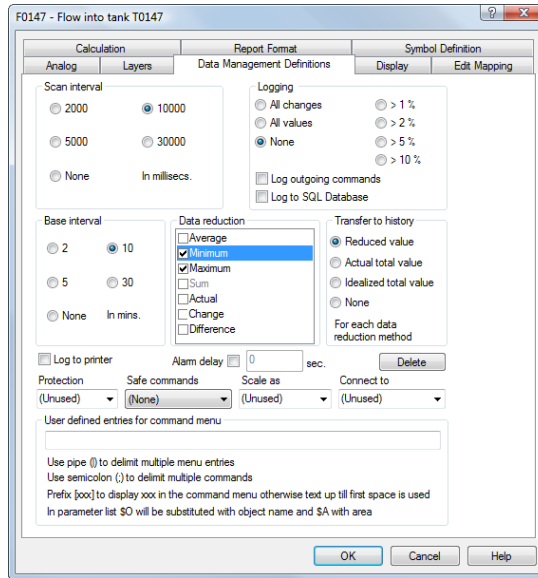

Figure 3.32 On the **Data Management Definitions** tab you define the data collection properties.
- Click the **Data Management Definitions** tab and make the selections shown in Figure 3.32.